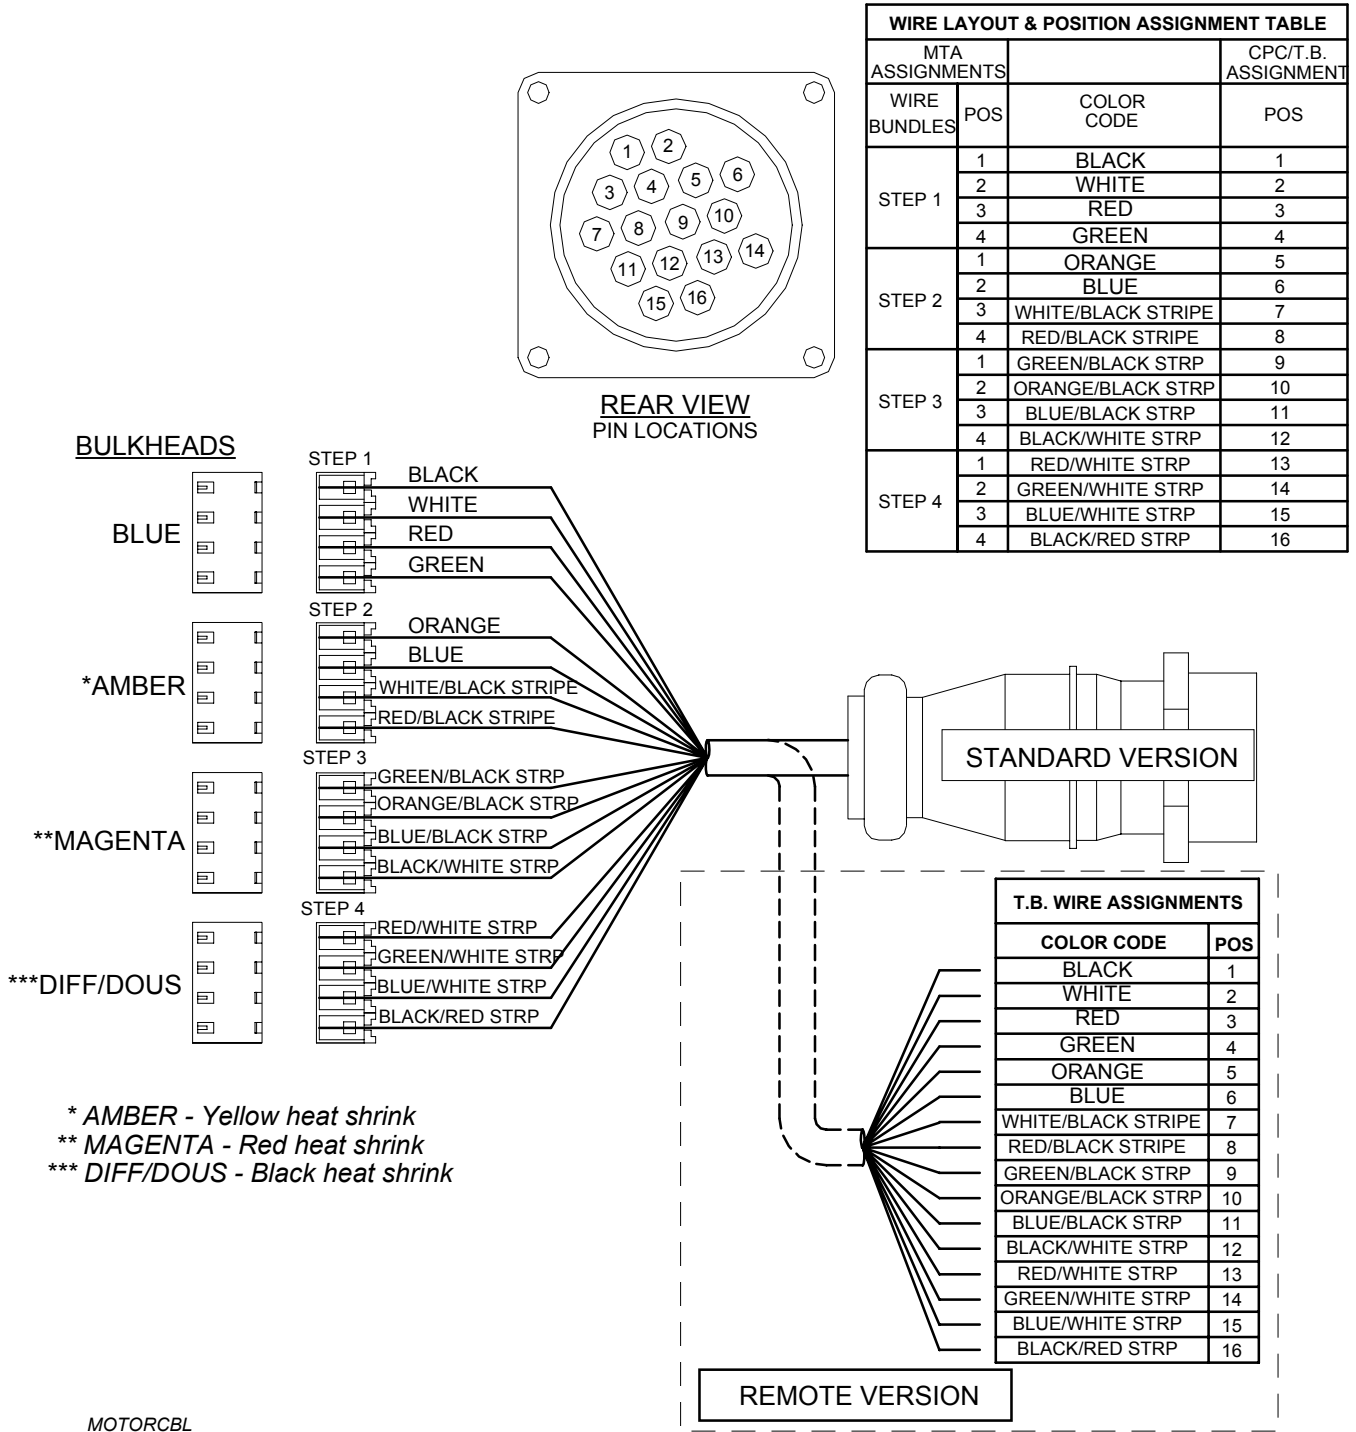

Figure 4.7 - Motor Cable Wire Codes
8. Feed new motor drive cable (7091B7014) through tilt tube and remote mounting assembly. Connect to termination block in remote mounting assembly. Refer to Table 4.1 - 16-Pin Connector Color Code and see Figure 4.7 - Motor Cable Wire Codes.